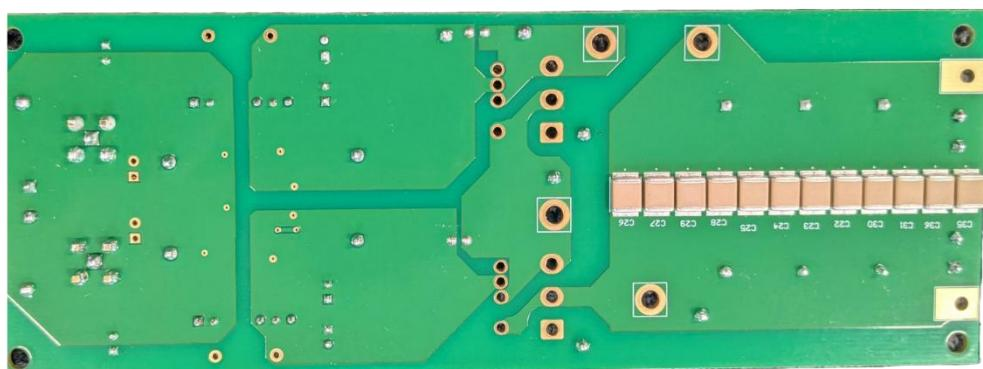

Figure 2: DPT evaluation board: Bottom side view.
**Figure 2** shows a bottom side view of the board.